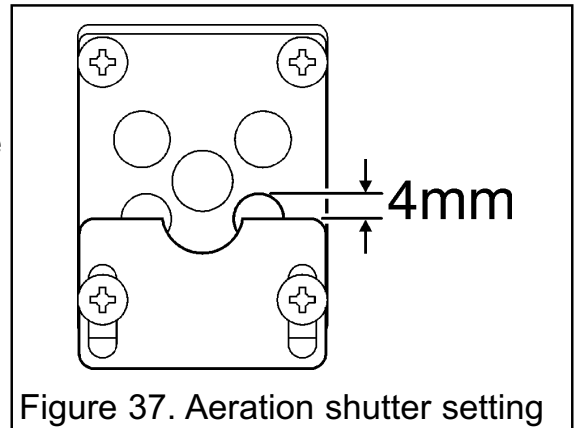

Figure 37. Aeration shutter setting
1. The aeration shutter is factory set and should not require adjustment. If the shutter is not as shown in figure 37 and requires adjustment, loosen the two aeration shutter screws, slide the aeration shutter to the position shown in figure 37 and tighten the fixing screws.